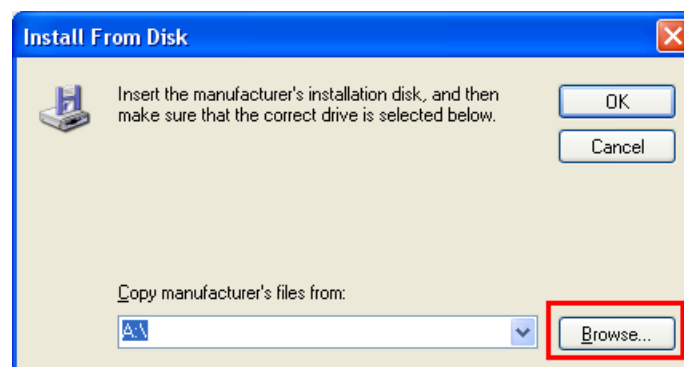

Fig. 2-4 Select the target file of driver
- 5) A dialog box named "Install From Disk" will pop up, see Fig. 2-4. Click [Browse...] button to open the target file of driver.